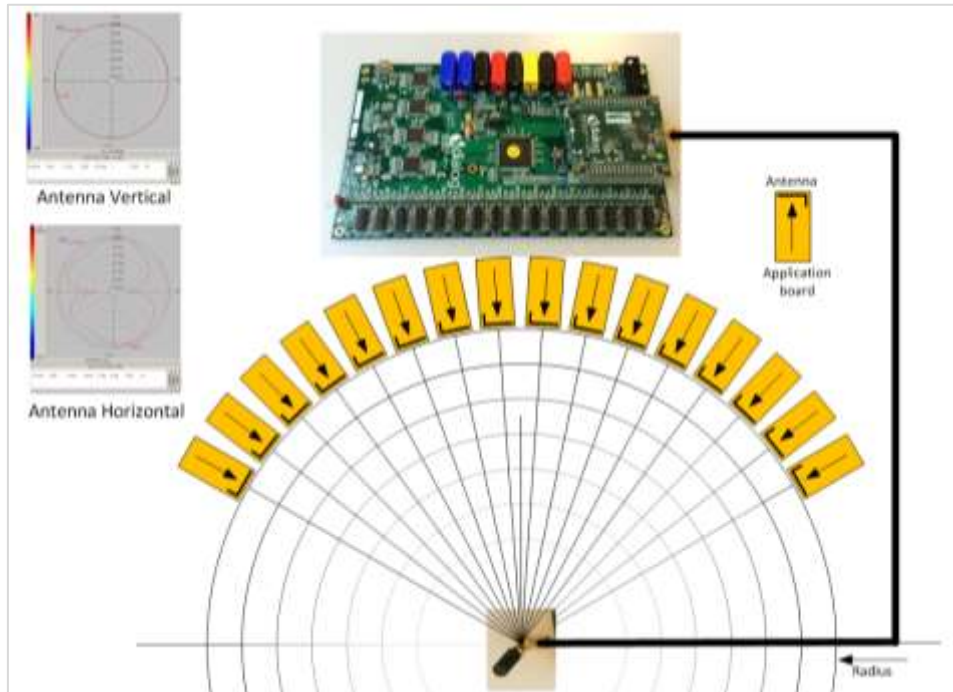

Figure 153: Possible solution of antenna on cable and fixed radius of DUTs to antenna
- A vertical GU antenna has different characteristics from a horizontal one, see Figure 153